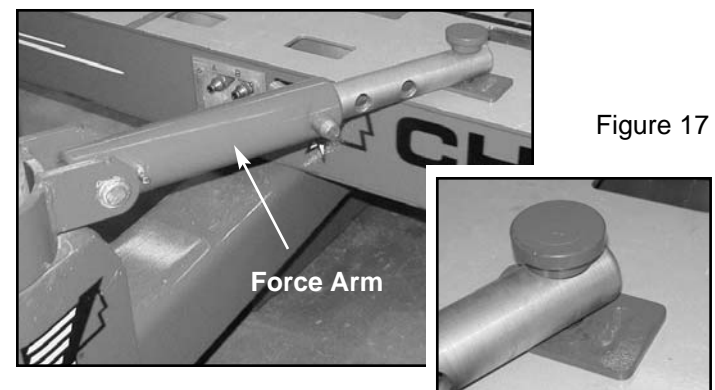

Figure 17
5. Determine the correct angle of pull and engage the tower force arm with a tie down hole on the mainframe. (See Figure 17 and its inset.) The beveled end of the arm mates with any of the tie down holes and prevents movement of the tower during the pull. The adjustable force arm provides flexibility when establishing the pulling angle. (See page 11 which shows examples of "allowable" pulling setups.)